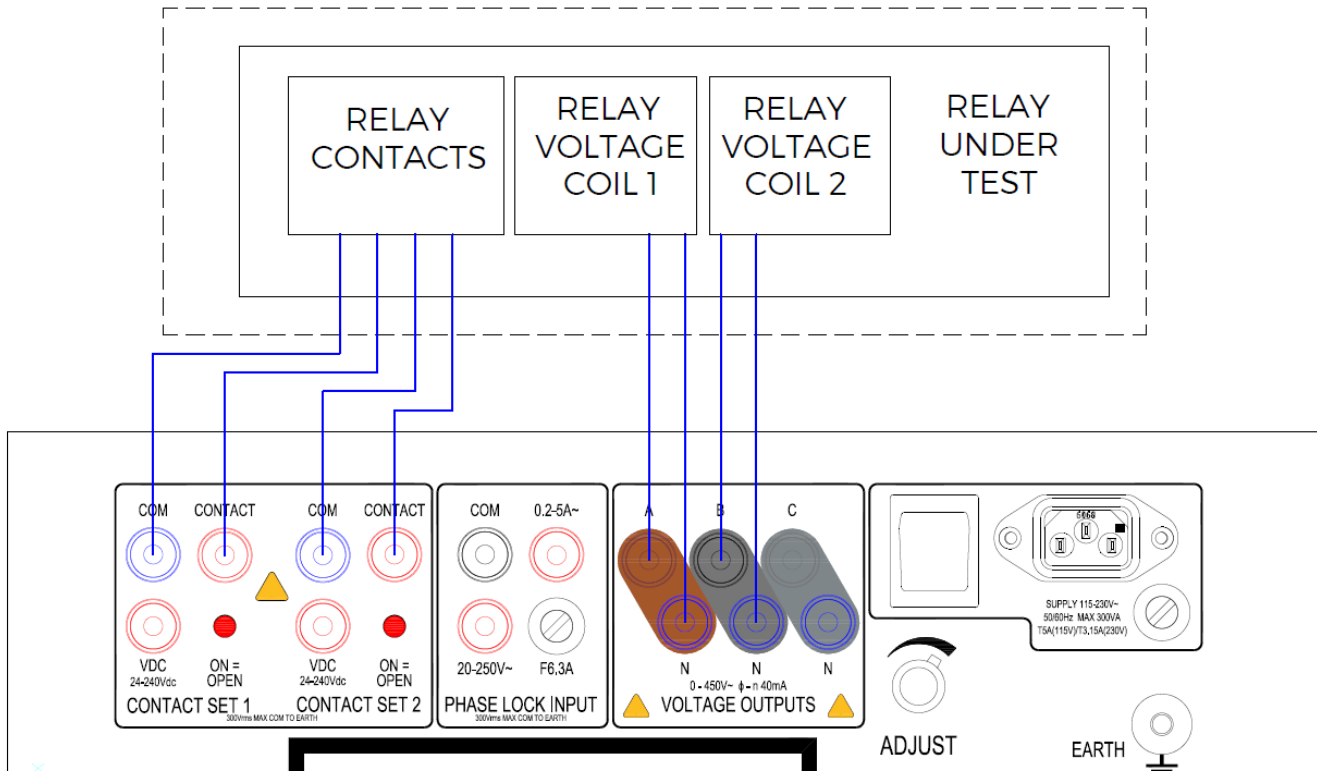

Figure 3.8 Connections for checking synchronising relays
- Connect an auxiliary supply to the relay if required (not shown in figure 3.8).